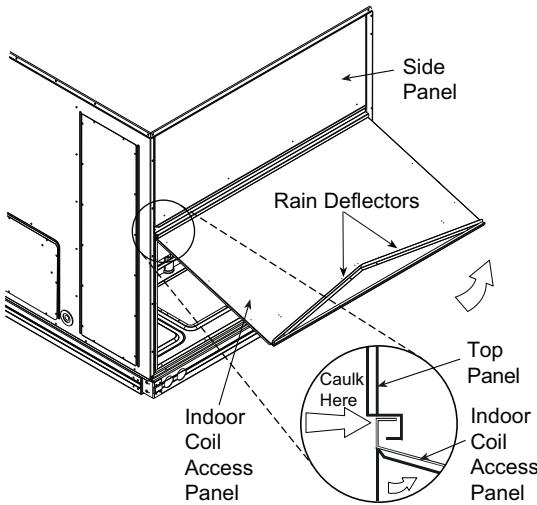

Fig. 11 – Indoor Coil Access Panel Relocation
1. The indoor coil access panel will be used as the top of the hood. If the panel is still attached to the unit, remove the screws along the sides and bottom of the panels. See Fig. 11.